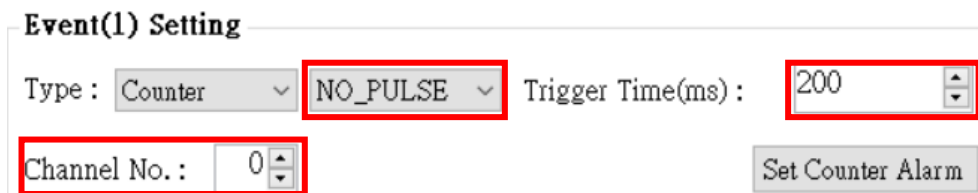

Figure 5.10.24
F. Select the trigger condition as "NO_PULSE", Trigger Time "200ms" and Channel No. "0", as shown in Figure 5.10.24